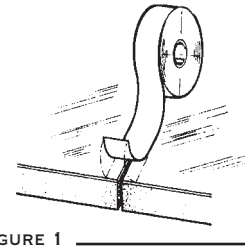

FIGURE 1
1. Center THERMAX™ white foil tape over dry, clean edge joint and apply tape (Figure 1). When installing THERMAX™ Sheathing or THERMAX™ Metal Building Board, use aluminum foil tape.